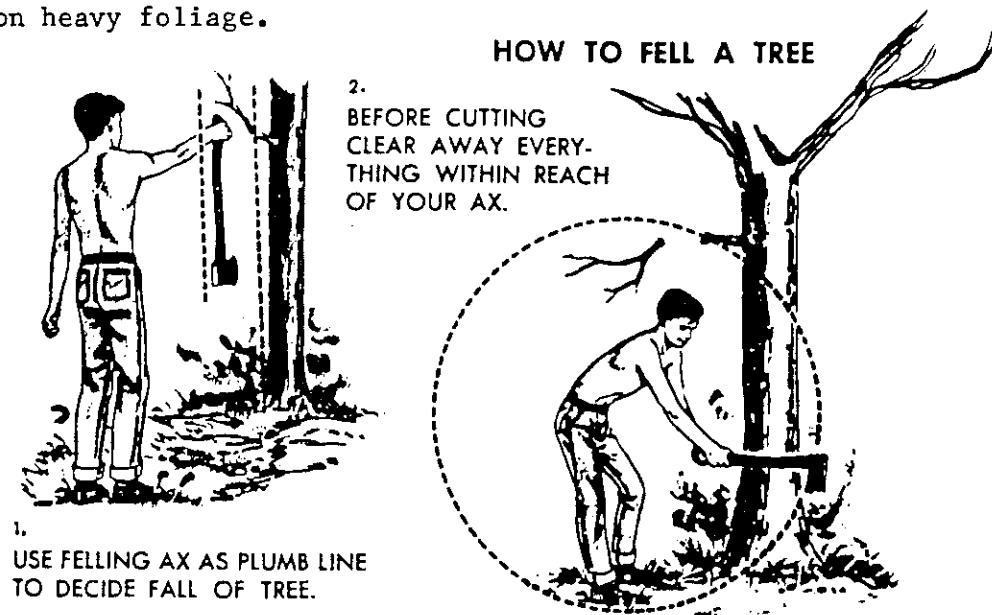

Figure 27
1. Felling a Tree Like anything else, chopping down a tree correctly takes experience and care. After a tree has been marked for cutting, the first thing to do is to check the lean of the tree and drop the tree in the direction of the lean. See Figure 27. If possible, fell a tree in the direction going with the wind, and naturally try not to get the falling tree "hung up" on heavy foliage.